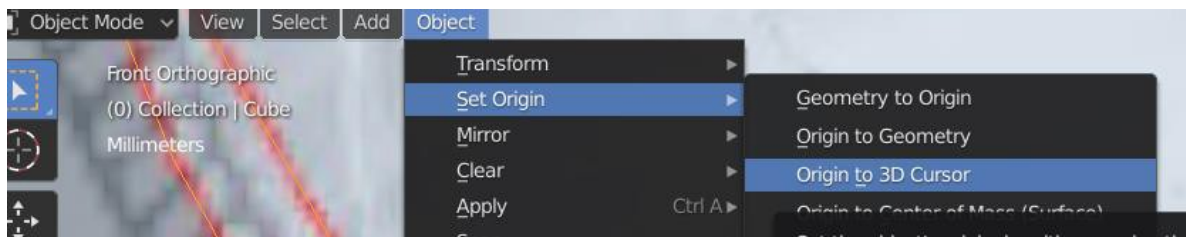

Figure 21
- 2) Although it is not necessary for the spin operation, it is good practice to maintain the **origin point** of the object close to its center. To this end, turn to object mode and under the Object menu set **Origin to 3D cursor** (Fig. 21).